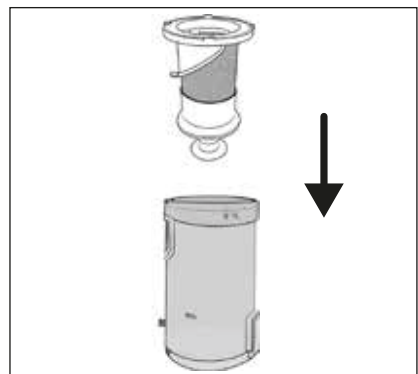

Fig. 21
- 6) Insert the stainless steel filter **5** into the dust container **6** and push it all the way down (see Fig. 21). Pay attention to the different sized locks on the stainless steel filter **5**. The stainless steel filter **5** can only be inserted into the dust container **6** in one position due to these locks.